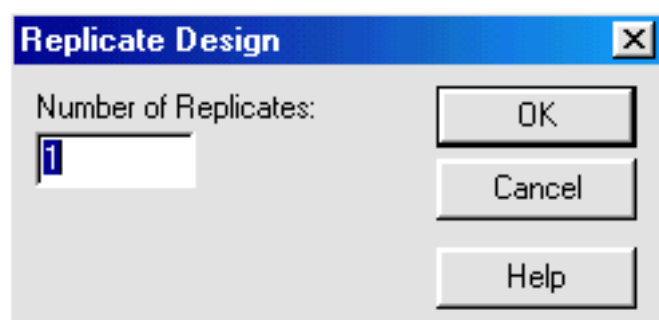

Figure 12-2. Replicate Design Dialog Box
2. Choose the Replicate Design option, then click OK to display the Replicate Design dialog box shown in Figure 12-2.